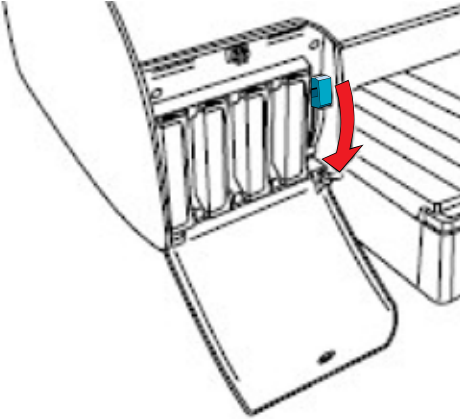

Figure 9
- 5.** Carefully remove its packaging and insert the replacement ink cartridge into the slot with the label side facing left. (See **Fig. 8**) Do not force the cartridge into the slot. Lower the ink lever in to the locked position. (**Fig. 9, Page 8**)